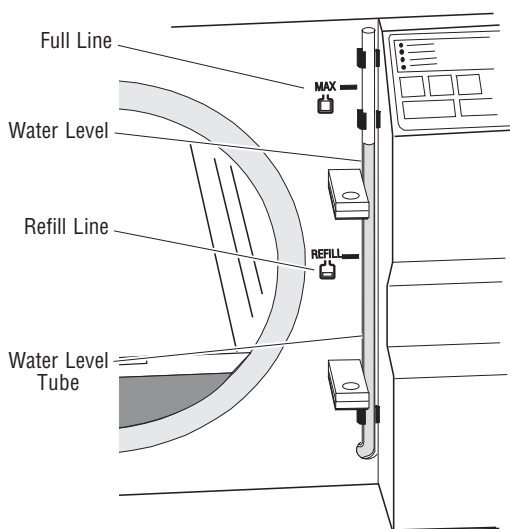

**Figure 3A-14**
2. Verify that the water reservoir is full (water level should be between REFILL and MAX indications on the water level tube, Figure 3A-14). If needed, slowly add distilled or deionized water (minimum resistivity of 1 megohm/cm). Do not overfill. Replace the water reservoir cover.